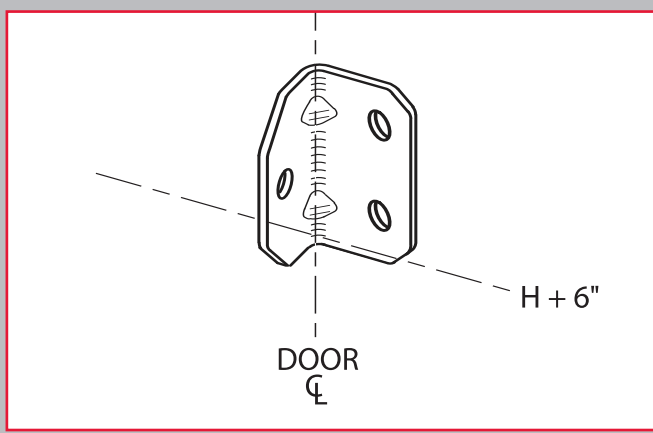

Fig. 1-24 Header bracket orientation
- Set bottom of bracket on your horizontal line. (Fig. 1-24).